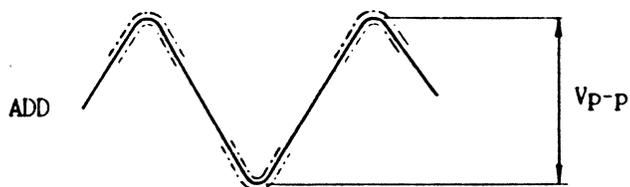

Fig. 414 Average Read Level Measurement(2F)
- (2) Start the spindle motor and load the level disk.
- (3) Shift the head to the innermost track.
- (4) Record one track at a constant 2F frequency (WRITE DATA frequency; for 1.6MB: 250kHz, for 1MB: 125kHz).
- (5) Measure the average read level value ( $V_{p-p}$ ) in accordance with Fig.414.
- (6) Substitute the measured values of item (5) and corrected READ LEVEL value into the following formula: